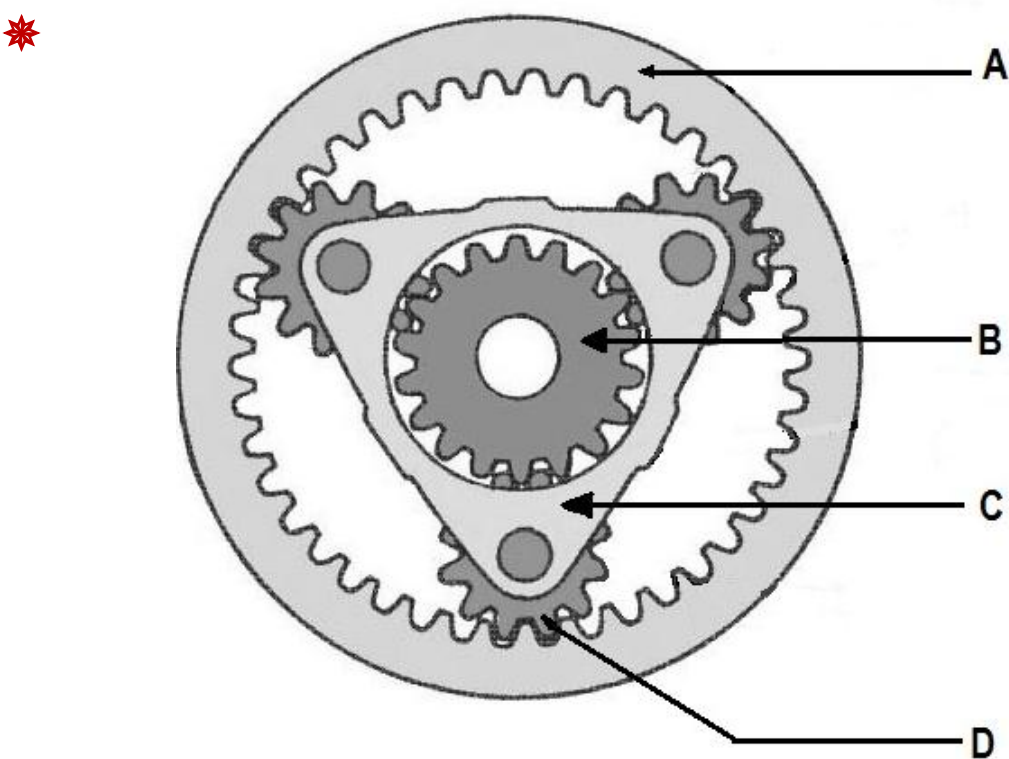

Figure 2
Before answering Question 3.1 all candidates must draw a table on their answer sheet as illustrated below. The response to Question 3.1.1 to Question 3.1.3 must be answered as indicated in the example included on the table. The components must be identified from Figure 2 below.
3.1 FIGURE 2 below shows components of an Epicyclic gear set. Different results may be obtained by locking or driving the different components indicated in the diagram.